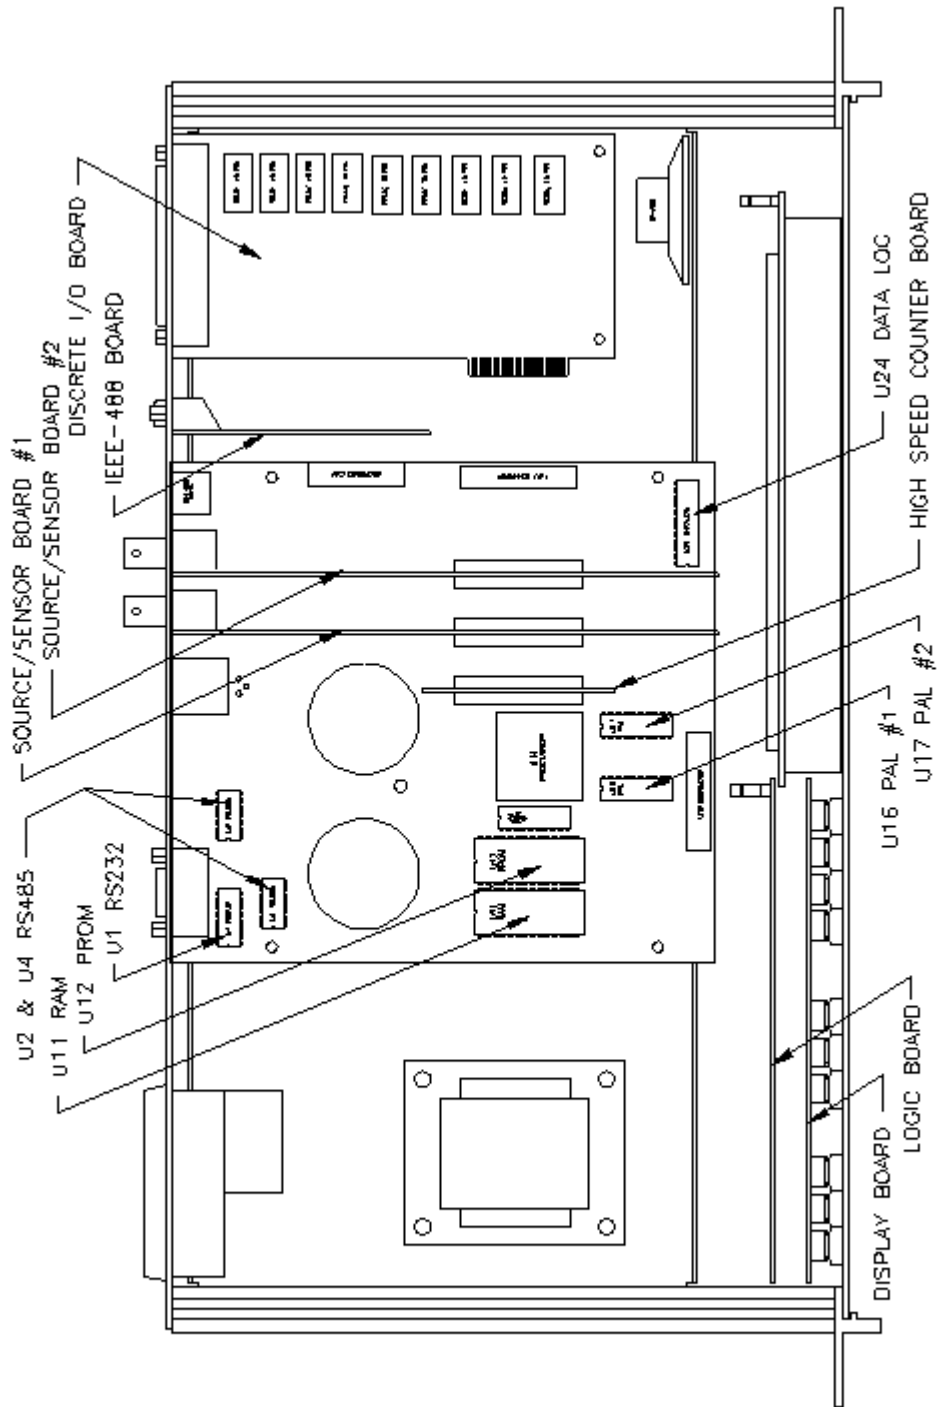

Figure 1 MDC-360C, Top View, Cover Removed
- Refer to Figure 1, locate and remove the old RAM from socket U11 (28 pin device). Insert the new RAM (32 pin device). Be careful not to bend any pins when you insert the chip. Also make sure that you oriented the RAM correctly as shown in the figure.